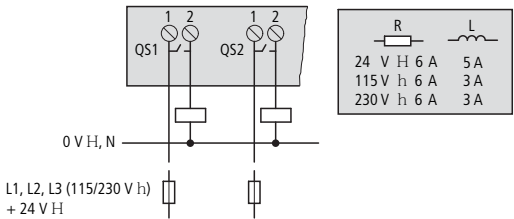

Figure 15: Relay outputs ES4P-221-DR...
- series connection of two QS outputs (ES4P-221-DR...), a figure 15 on page 51.